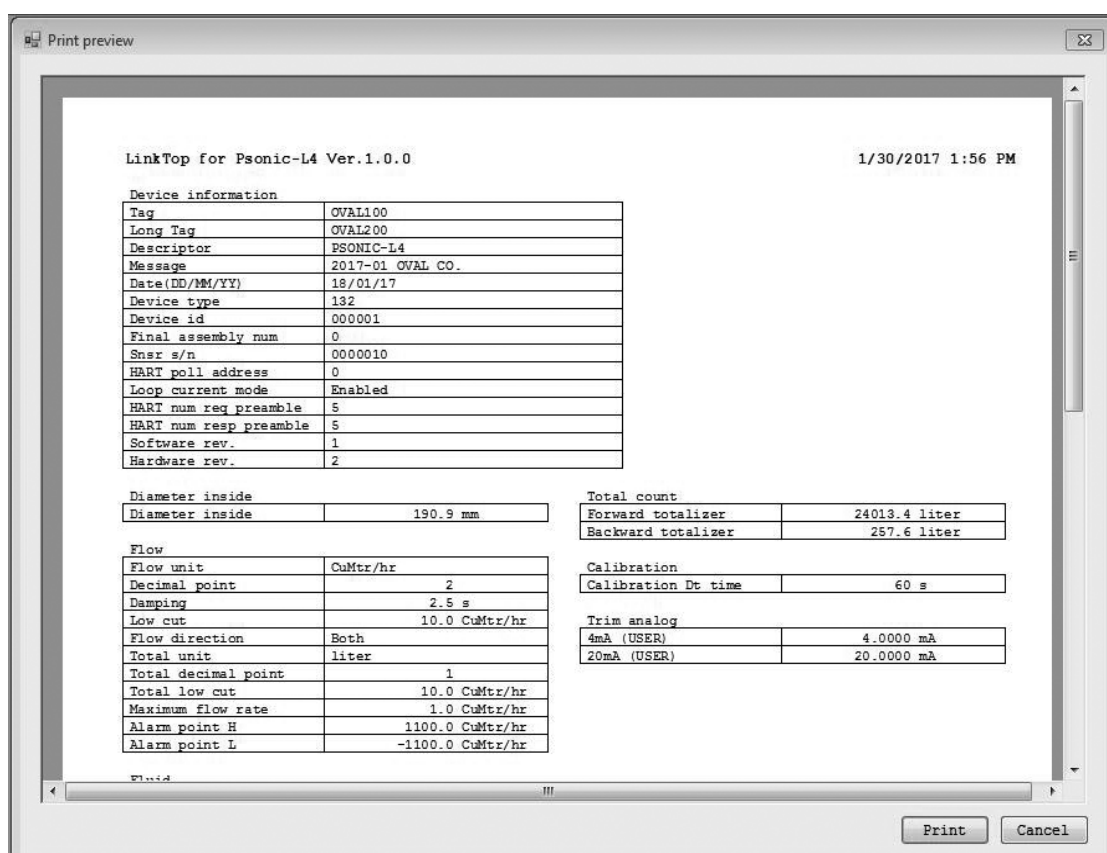

Fig. 3-94
- (3) After the upload is terminated, the following window (Fig. 3-94) will be displayed. Verify parameter values here. Click "Print" button to execute printing and click "Cancel" button not to execute printing. The display size can be changed.